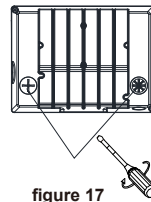

figure 17
2. After adjusting the required control function,tighten the metal plug and the plastic plug clockwise.(figure 17 )